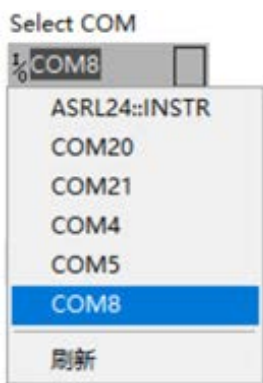
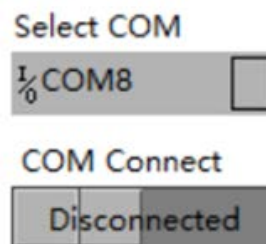
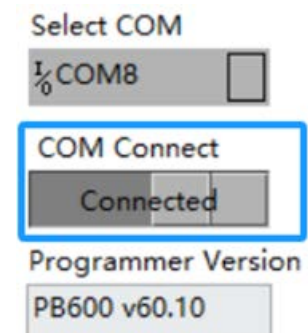

Figure 5.3.3 Select COM
Figure 5.3.4 Click COM Connect
Figure 5.3.5 Status of the programmer after
- Click on the drop-down menu below "Select COM" to choose the corresponding port number for the programmer (Figure 5.3.3). Click on the "Disconnected" button below "COM connect" to establish communication between the programmer and the host computer (Figure 5.3.4). After successfully establishing communication between the programmer and the host computer, the programmer will return the current firmware version and display it in the box corresponding to "Programmer Version" below (Figure 5.3.5).